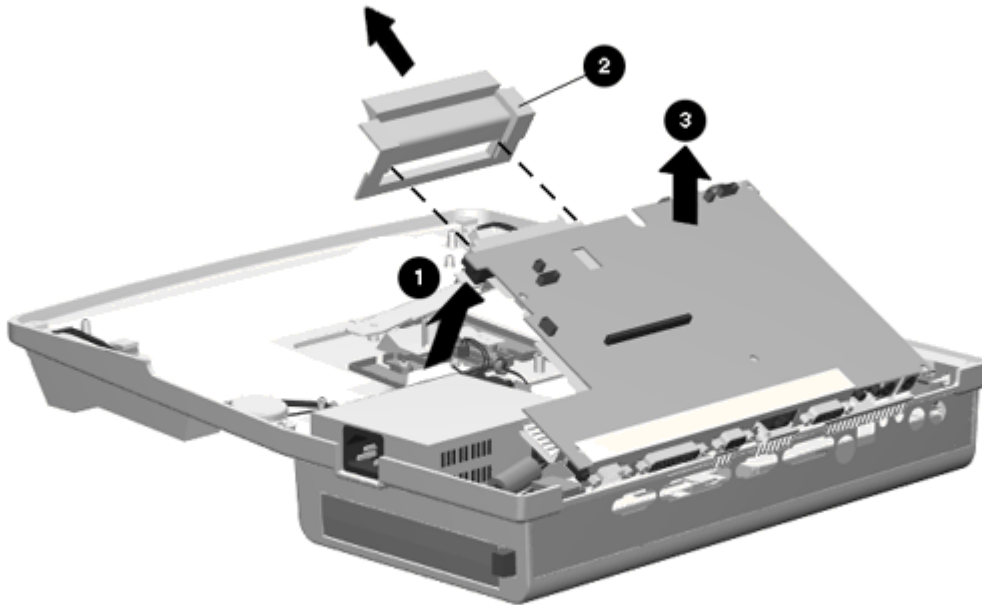

Figure 6-18. Removing the Main Board Assembly
7. Lift the main board out of the base. Begin lifting at the front edge of the board [1] . The CPU connector bezel [2] comes off with the board but is not attached to the board. Some manipulation is required around the PC Card door module (Figure 6-18) .